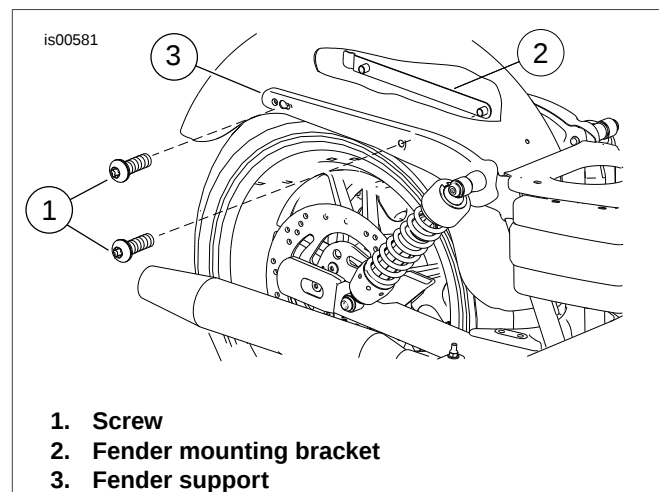

Figure 3. Models without Detachable Accessories
1. **For all models:** See Figure 3. Work on one side of the vehicle at a time. Remove and discard stock fender mounting screws (1) and stock fender mounting bracket (2) from fender support (3).